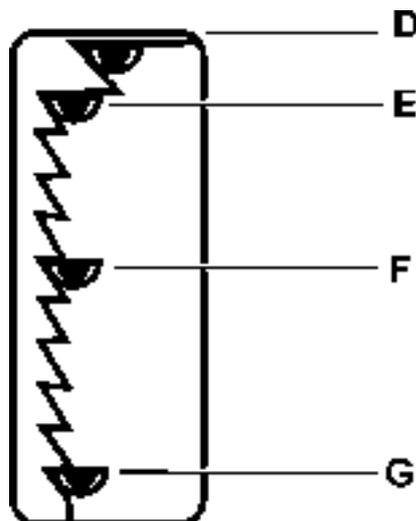

Fig. 4.14. Engine Speed and Shut Down Control Lever Positions
2. Place the transmission shift lever (8) in neutral.
3. Place the transmission neutral lock lever (10) in vertical "ON" position.
4. Move the engine speed and shut down lever (9) to low speed (idle) position E (Fig. 4.14).
5. Turn the electric system master (7) switch to "ON".
1. Perform all steps as described in items 1 through 3 and 5 through 6. Refer to "NORMAL START".
2. Place the engine speed and shut down lever in the OFF position (Fig. 4.14).
3. Press the engine starting button (6) on the instrument panel. Crank the engine until oil gauge (4) registers oil pressure or the low oil pressure warning light goes off. Release the starting button (6).
4. Move the engine speed and shut down lever to the idle position E (Fig. 4.14).
5. Perform all steps as described in items 7 through 10. Refer to "NORMAL START".
1. Using control levers (3 and 4) lower all mounted equipment to the ground. Depress the brake and decelerator pedal (5) and place the transmission shift lever (7) into NEUTRAL.
2. Apply the transmission neutral lock lever (9).
4. Depress and lock brake and decelerator pedal (5).
5. Move engine speed and shut down lever (8) to the large notched OFF position (Fig. 4.14).
6. Turn the electric master switch (6) into OFF position.
1. Place engine speed and shut down control lever (4) in the high idle position (G, Fig. 4.14).
2. Depress brake and decelerator pedal (1) to decrease engine speed.
3. Move forward transmission neutral lock lever (3) from ON to OFF position.
4. Place transmission shift lever (5) in the desired range. Refer to "SHIFTING THE TRANSMISSION".
5. Gradually release brake and decelerator pedal (1).